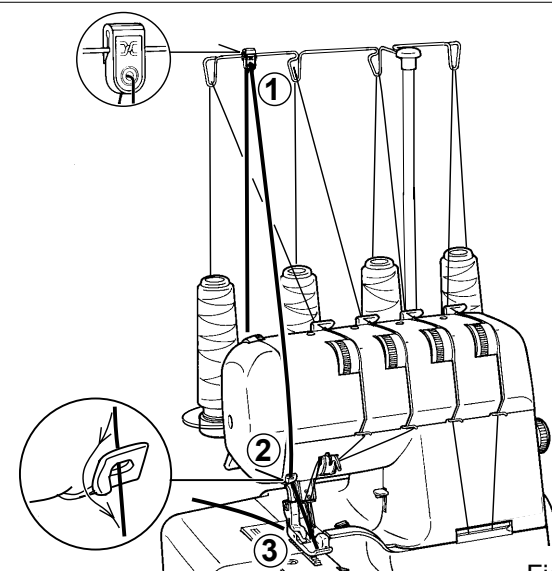

Fig. 1
1. Snap the detachable cord guide, in your accessory set onto the thread guide pole (Fig. 1).
2. Place a ϕ filler ϕ cord, such as a crochet cotton, gimp, wool, knitting yarn, or shirring elastic at the rear of the machine spool pin. Pass the cord through the cord guides (1) and (2) and then through the left needle thread guide (3). See Fig. 1.